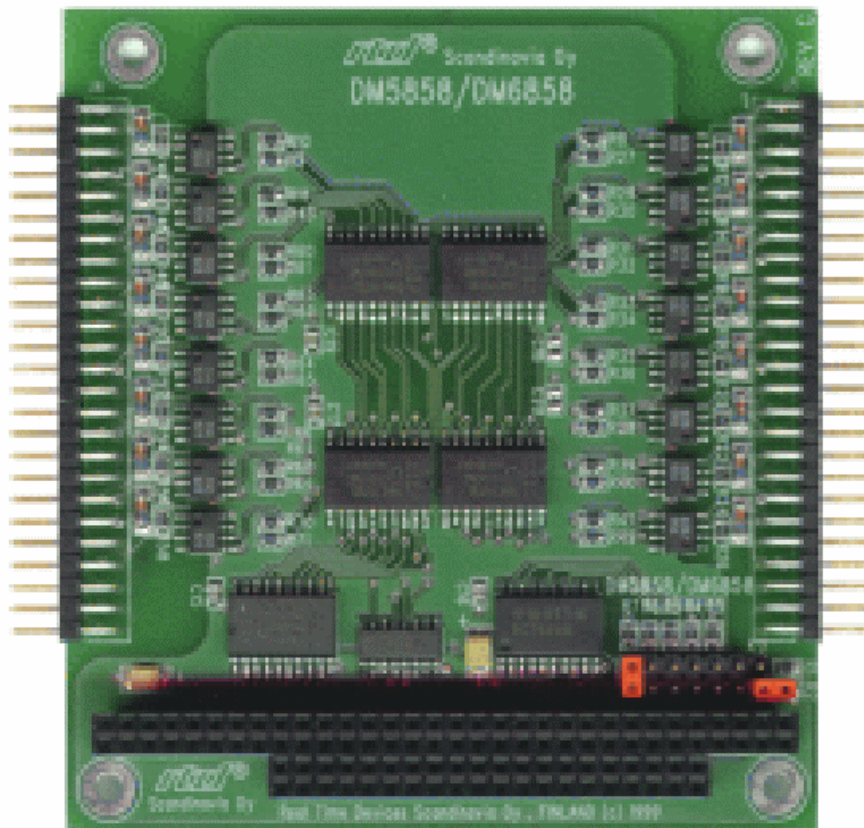

Figure 2-1 - Board layout showing jumper locations (DM6858HR board in the picture)
- Fig. 2-1: Board layout showing jumper locations